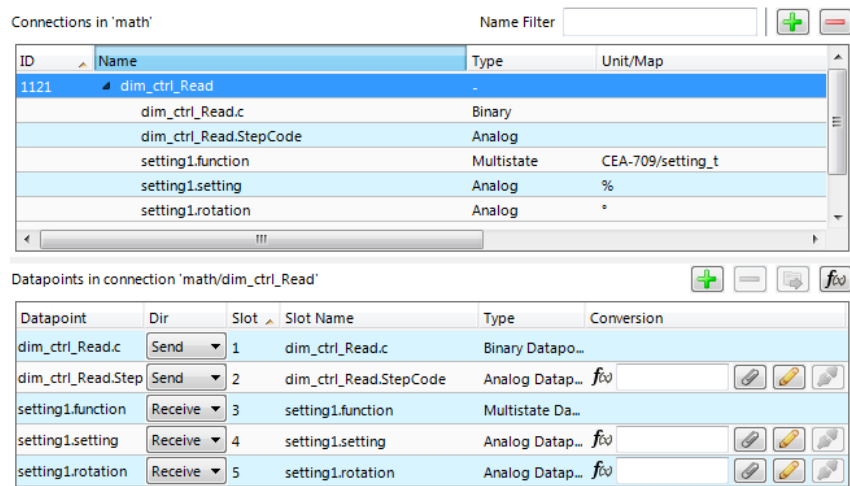

Figure 44: Multi-slot connection for math block adaptor.
2. Add output slots to the multi-slot connection, e.g. by adding a structured output data point. An example is shown in Figure 44.